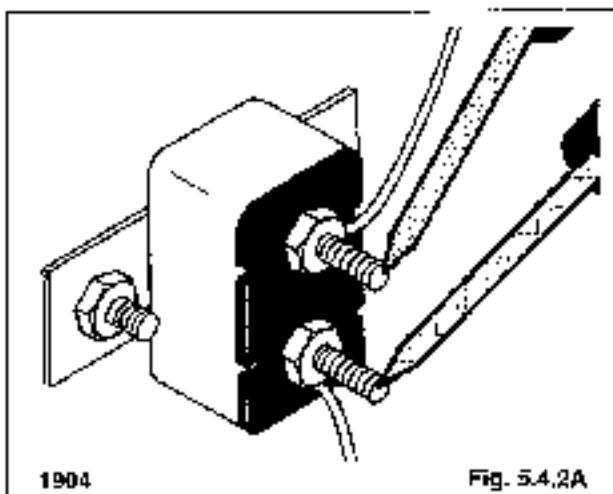

Fig. 5.4.2A
For circuit protection a 40 amp. circuit breaker is located on the starting circuit (Fig. 5.4.2A).
1. With the ignition off connect one ohmmeter lead to one of the terminals on the circuit breaker (Fig. 5.4.2A).